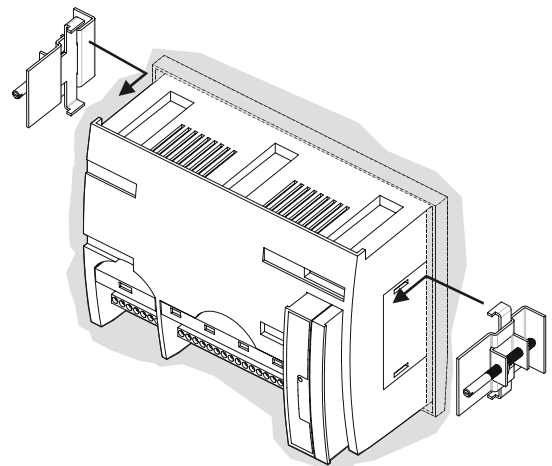
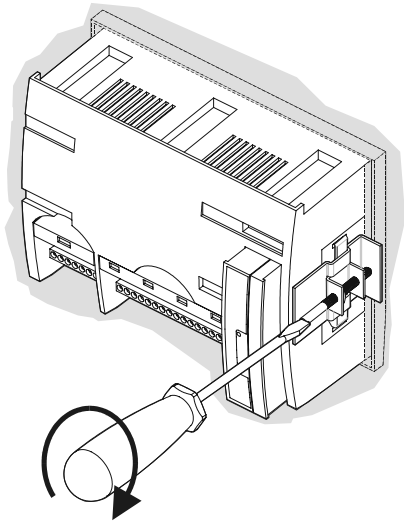

Fig. 10. Fixing with front-door mounting clamps (a)
Fig. 11. Fixing with front door mounting clamps (b)
5. Attach front-door mounting clamps on both sides of the controller (Fig. 10) and tighten the screws with a screwdriver (Fig. 11).